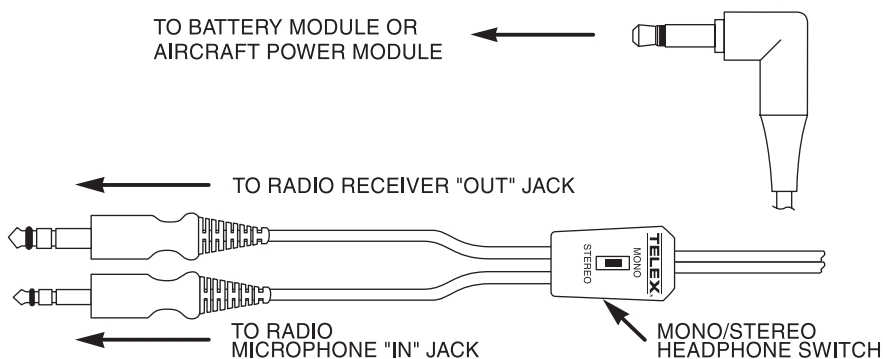

Figure 2. Headset Connection
1. Connect the headset as shown in Figure 2. Set the MONO/STEREO headphone switch to match the type of sound system in your aircraft.